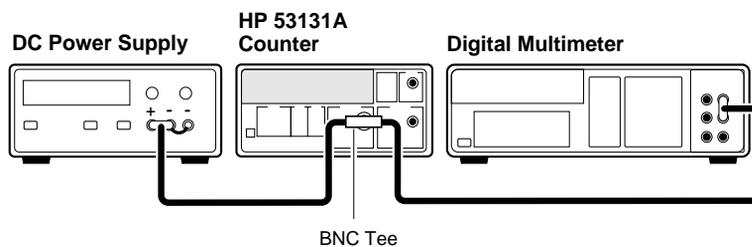

Figure 2-1. Gain Calibration Setup
- 4 Connect the Counter, dc power supply, and multimeter as shown in Figure 2-1.**